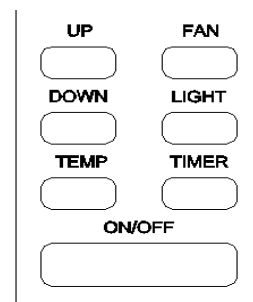
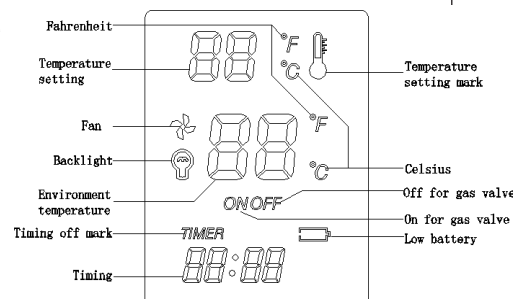

Figure 20 - Front of Remote Control
Figure 22 - Blue-light for LCD Display
11. Key content:UP,DOWN,TEMP,FAN,LIGHT,TIMER,ON/OFF see in Figure 20. Remote control of the LCD display as shown in Figure 22.